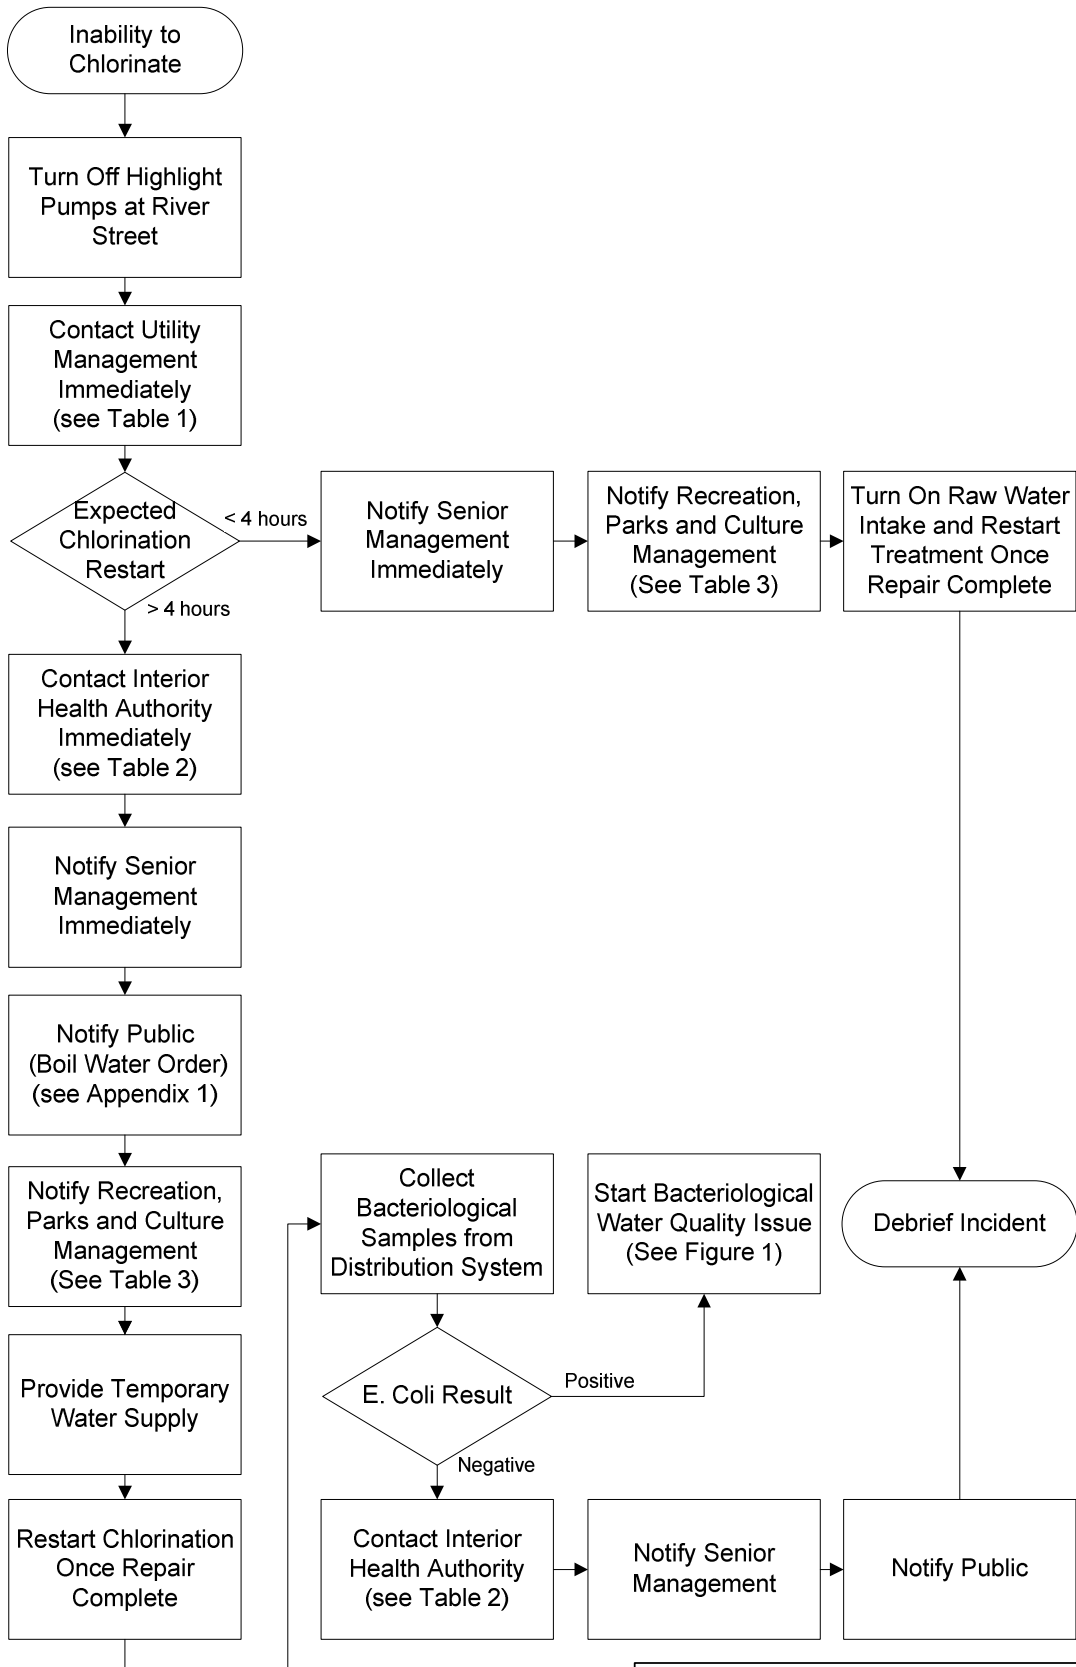

FIGURE 2. INABILITY TO CHLORINATE
- Disinfection of the water supply is not available. (see Figure 2)